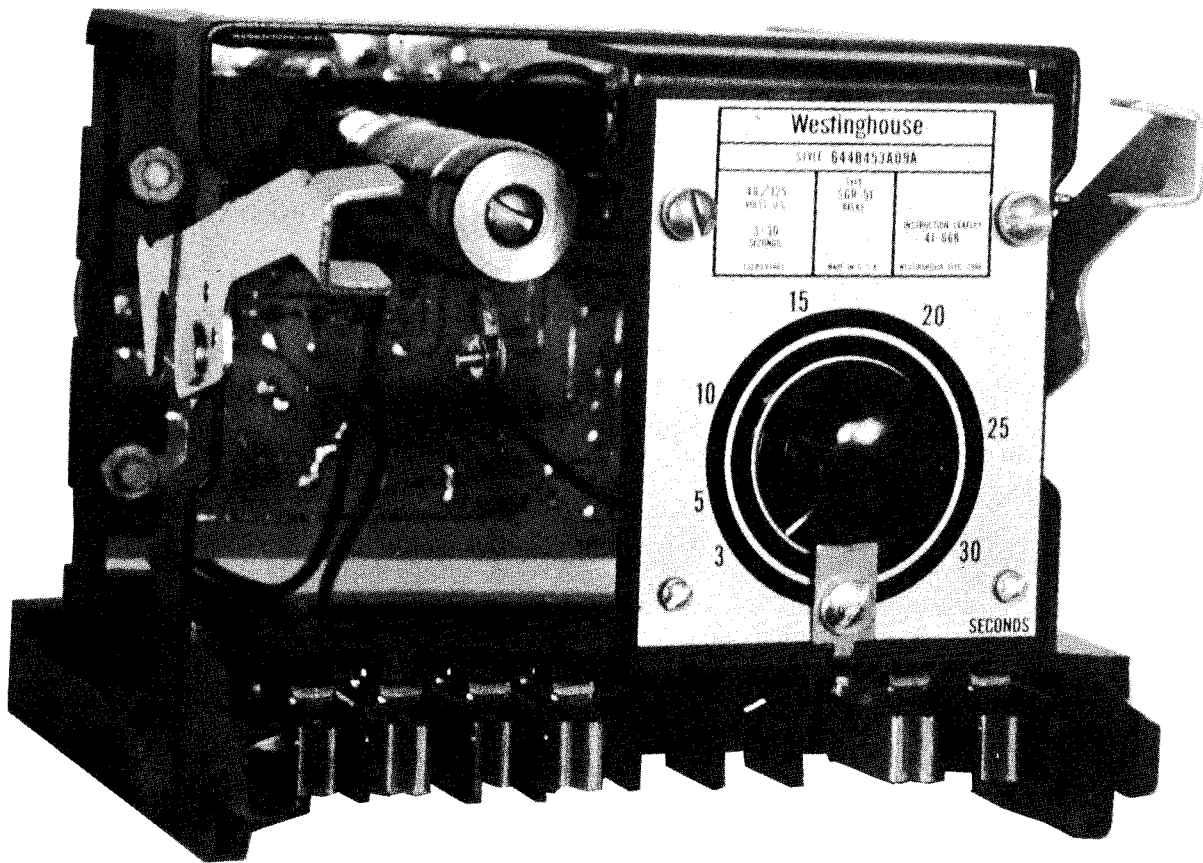

Fig. 1 Type SGR-51 Reclosing Relay (Front View).
The SGR-51 is a completely static relay consisting of (1) a timing circuit, (2) a flip-flop control circuit, (3) an output pulse circuit, and (4) a reclosing circuit. All components except the reclosing circuit Thyristor are mounted on a printed circuit board. The Thyristor is mounted on a heat sink located on a sub base. All components are identified on the internal schematic on Figure 1.